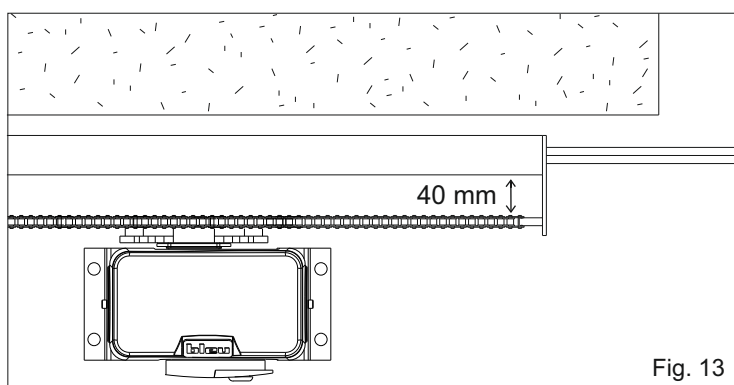

Fig. 13
**Notice:** the holes for the chain tensioner and so the chain itself must be to a minimum distance of 40 mm from the gate (Fig. 13).